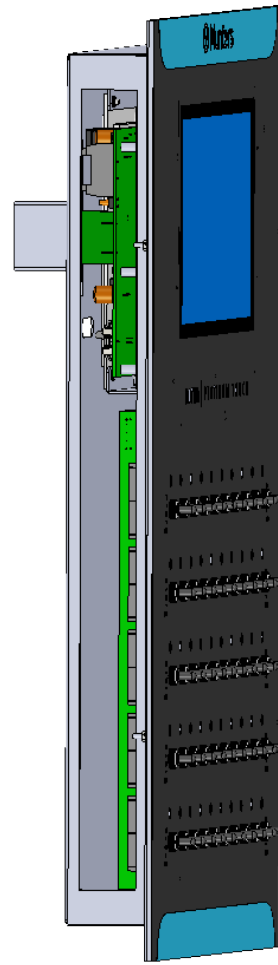
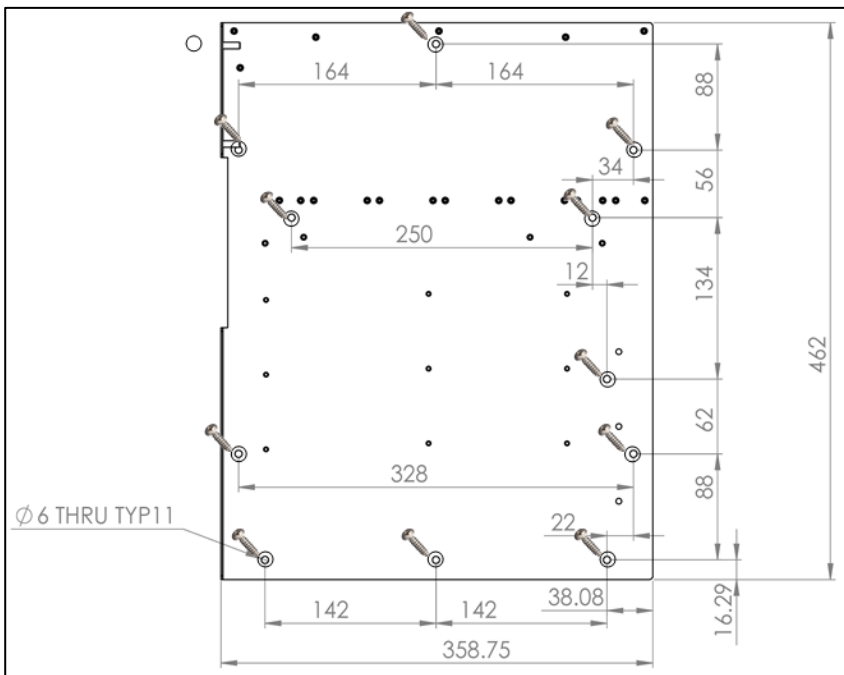

Figure 55: Platinum Pro 50 Side View
Figure 56: Platinum Pro 30 and Platinum Touch 30 Back Panel Dimensions
- Cut a hole in the door that is 20 millimetres larger than the dimensions shown in Figure 55 and Figure 56.